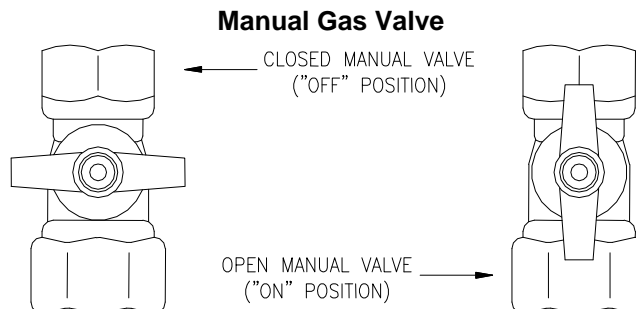

Figure 47
| <ol style="list-style-type: none"> 1. STOP! Read the safety information above before proceeding. 2. Set the thermostat to the lowest setting. 3. Turn off all power to the electrical appliance. 4. This appliance does not have a pilot. It is equipped with a direct ignition device, which automatically lights the burner. Do not try to light the burner by hand. 5. Turn the manual valve located at the gas inlet of the appliance clockwise  to "OFF" (see Figure 47). | <ol style="list-style-type: none"> 6. Wait (5) minutes to clear out any gas. If you then smell gas, STOP! Follow "B" in the safety information above on this label. If you don't smell gas, go to next step. 7. Turn the manual valve located at the gas inlet of appliance counterclockwise  to "ON" (see Figure 47). 8. Turn on all electric power to the appliance. 9. Set the thermostat to desired setting. 10. If the appliance will not operate, Follow the instructions "To Turn Off Gas To Appliance" and call your service technician or gas supplier. |
| <ol style="list-style-type: none"> 1. Set the thermostat to the lowest setting. 2. Turn off all electric power to the appliance if service is to be performed. | <ol style="list-style-type: none"> 3. Turn the manual valve at gas inlet of appliance clockwise  to "OFF" (see Figure 47). |